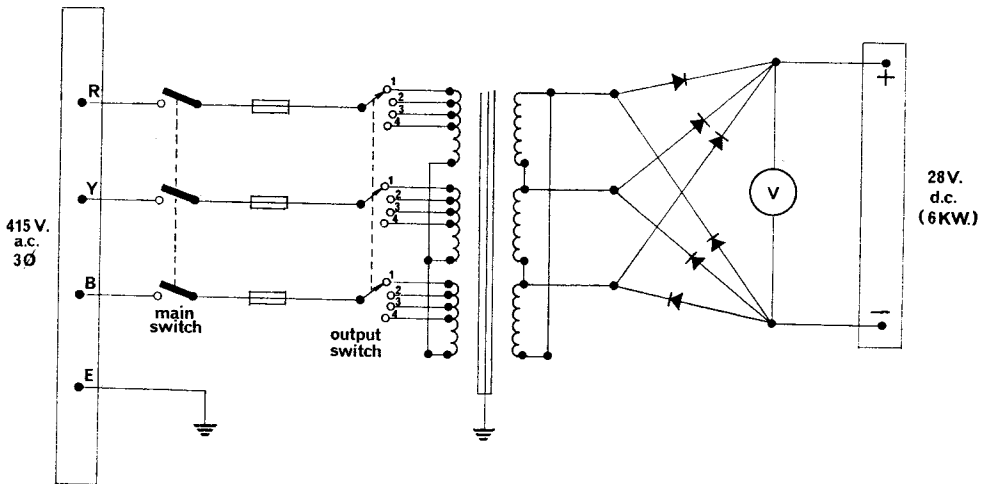

Fig. 4 Circuit of rectifier type 37
9. **Operation.** The unit contains a three phase transformer and a bank of full-wave metal rectifiers. The on/off control is a rotary switch mounted on the control panel and is wired to each of the three input phases (see Fig. 4). Each phase is separately fused by a cartridge fuse rated at 15 amps. and these fuses are mounted inside the case behind an access panel. The output voltage control is a rotary four position switch, mounted on the control panel, wired to select tappings on the transformer primary windings. A voltmeter calibrated 0-40V. indicates the output voltage from the rectifiers.